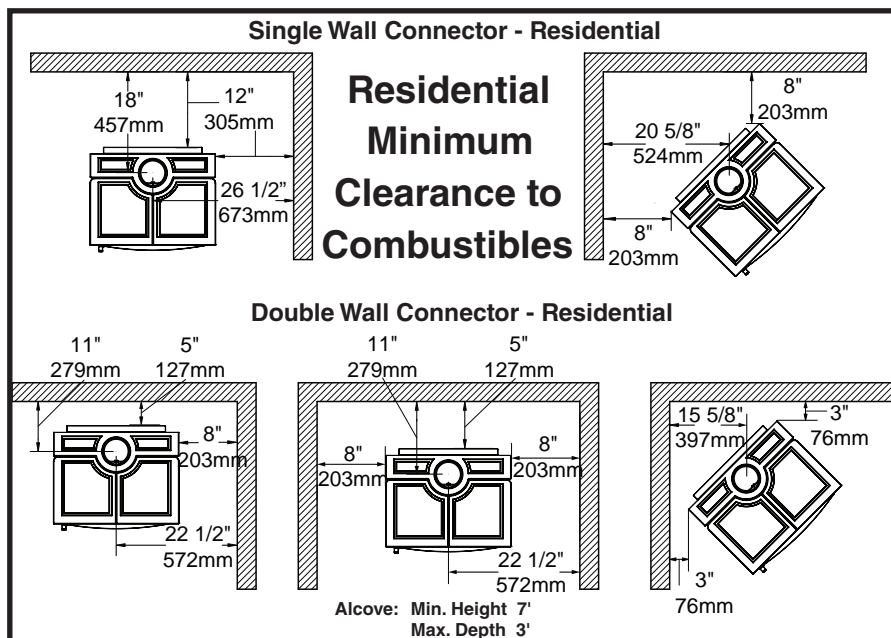

Figure 11: Residential wall connector clearances.
3. Alternately, for close clearances, use a listed double-wall connector. See “Figure 11: Residential wall connector clearances.” on page 20
**NOTE:** Longer chimney lengths and different pitch flashings may be used. All other parts installed must be listed, see Figure 11 on page 20. Install all components to the connector and chimney manufacturer’s installation requirements. Consult your chimney supplier for additional installation advice.